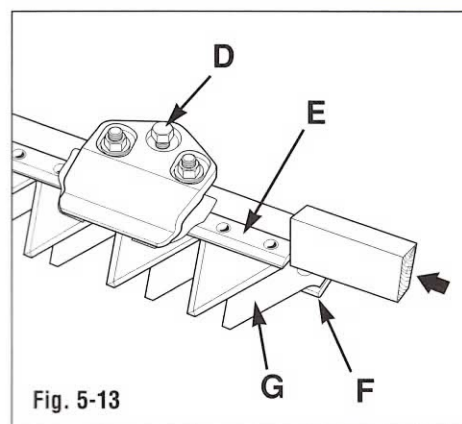

Fig. 5-13
2. Loosen screws (D, Fig 5-13).
3. Slide the blade assembly (E, Fig. 5-13) out one end of the cutter bar assembly. If the blade assembly does not slide readily, tap each end of the blade assembly using a rubber mallet or hammer and block of wood (Fig. 5-13).
**NOTE:** Blade sections are riveted to the cutter blade assembly (E, Fig. 5-13). Ledger plates (G) are blades riveted to the cutter bar assembly (F).
Slide the blade assembly back into cutter bar assembly. If the blade assembly does not slide readily, loosen screws (D, Fig. 5-13).